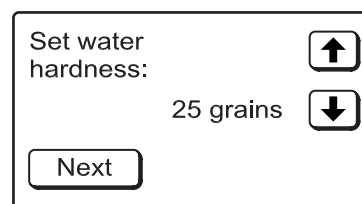

FIG. 18
- 3. WATER HARDNESS:** Press the UP (↑) or DOWN (↓) buttons to set the value of your water's hardness (See Figure 18), then press the NEXT button.